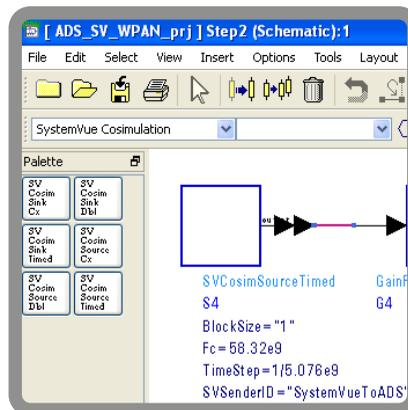

Figure 5. The ADS co-simulation palette shown here is created after installation.
- Exit ADS, if it is currently running. Establish environment variables for **HPESOF_DIR** and **ADSPTOLEMY_MODEL_PATH**, per the instructions in the “SETUP” document. When you run ADS, you should have a new DSP schematic palette called “SystemVue Cosimulation” as shown in Figure 5.